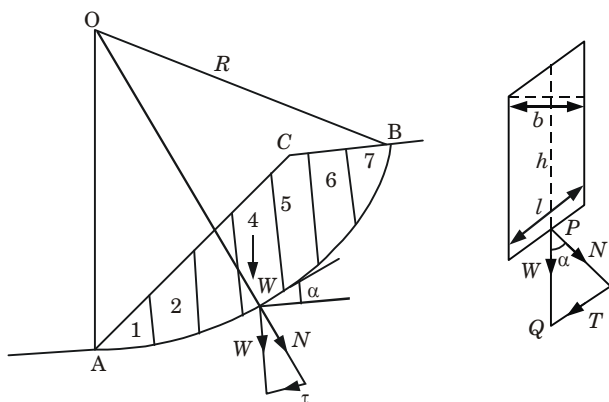

Fig. 5.17.1. $c - \phi$ analysis-method of slices.
1. In this method, the soil mass above the assumed slip circle is divided into a number of vertical slices of equal width, as shown in Fig. 5.17.1. The number of slices may vary from 6 to 12, when hand computations are to be used.
7. The tangential component T causes the rotating moment. In the end slice, such as slice number 1 in Fig. 5.17.1, the tangential component may act in an opposite direction, causing a restoring moment.